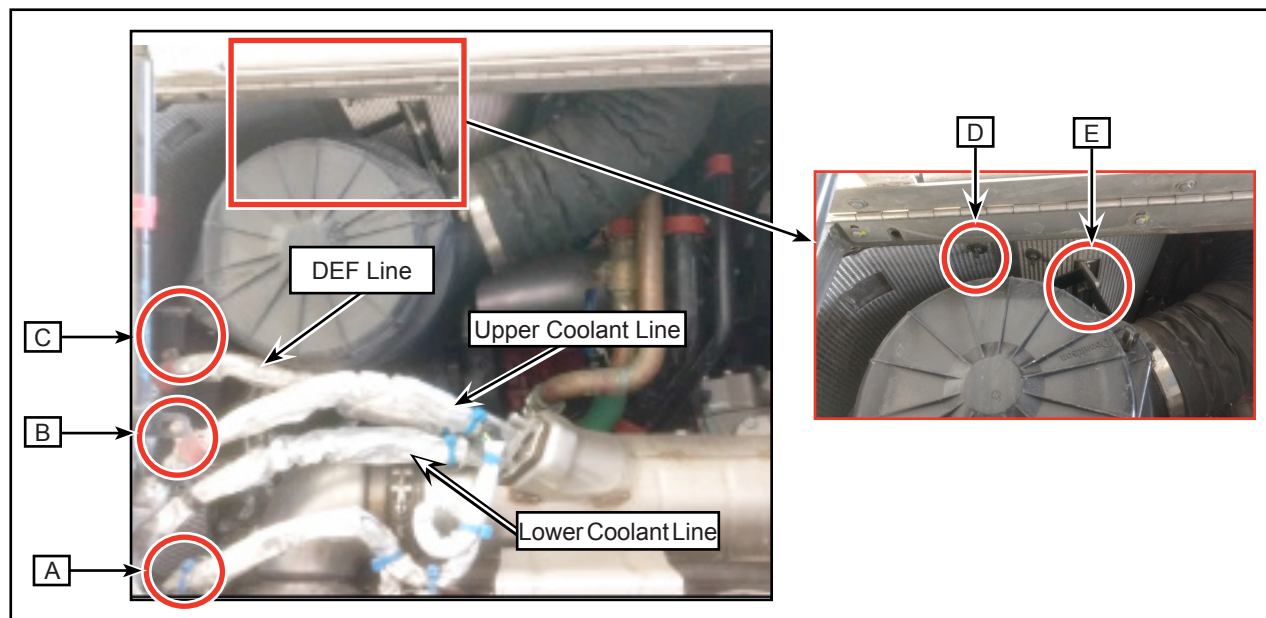

Figure 8 - Typical View of Coolant Lines
- 1.9. Locate the decomposition coolant lines (see Figure 8).
- 1.10. Locate all the positions (A, B, C, D and E) shown (see Figure 8), where new brackets have to be installed.